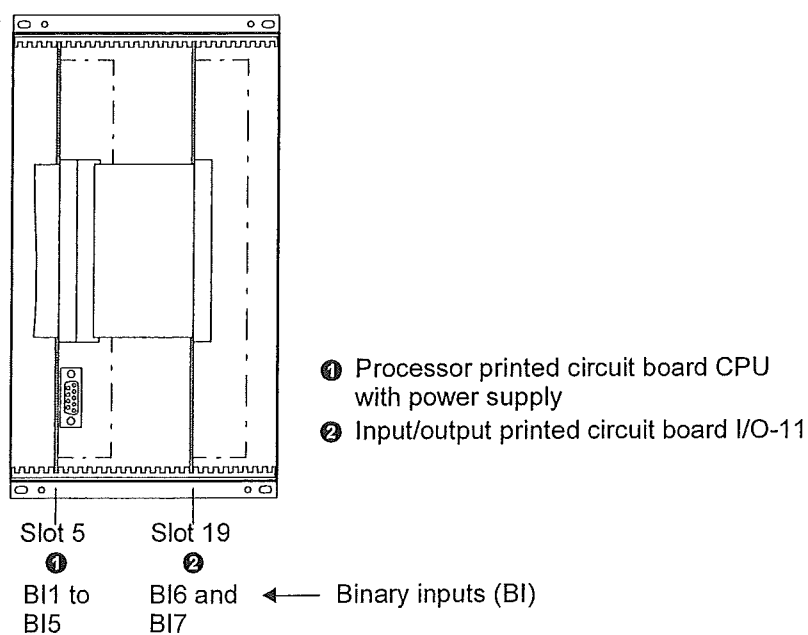
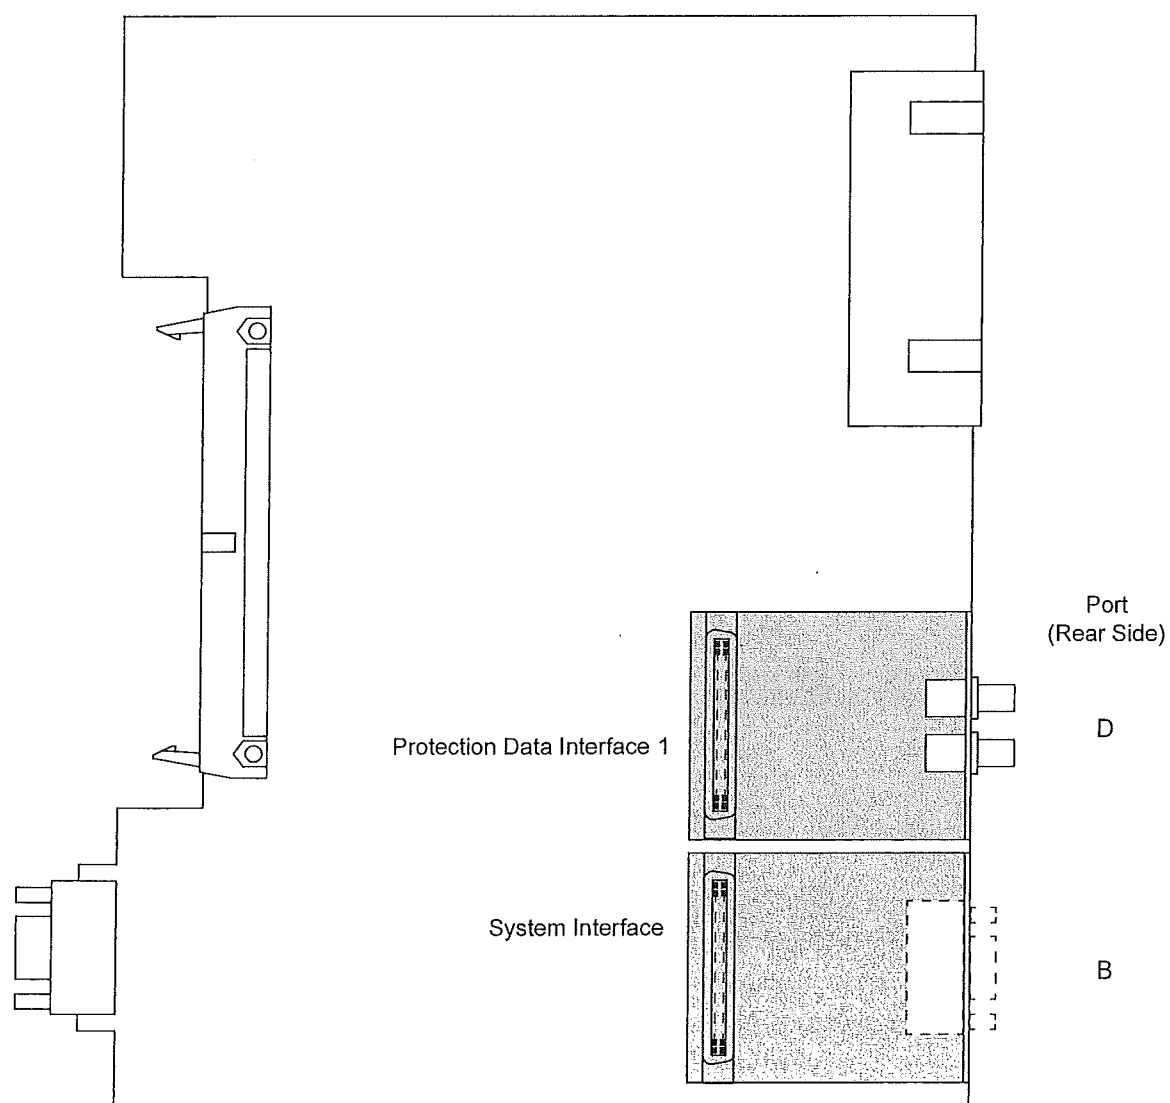
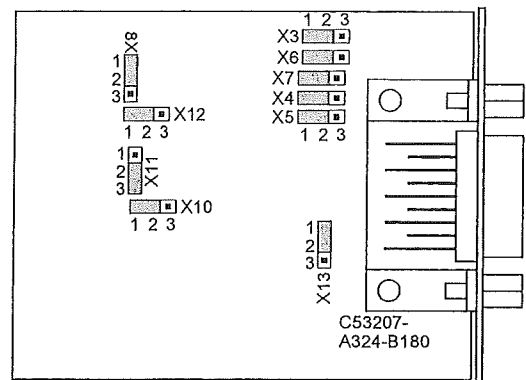

Figure 3-5 Front view of the device after removal of the front cover (simplified and scaled down)
Figure 3-8 Processor board CPU with the interface modules
Figure 3-9 Location of the jumpers on the interface module for RS232
The order of the boards is shown in Figure 3-5.
The interface modules can be replaced in housings for flush or cubicle installation. They are located on the processor board CPU (① in Figure 3-5). Figure 3-8 shows the CPU board and the location of the interface modules. The ordering numbers of the exchange modules are listed in Appendix A.1.1 (Accessories).
Figure 3-8 shows the PCB of the CPU with the location of the modules. Figure 3-9 shows how jumpers of interface RS232 are located on the interface module.
Note that devices in surface mounted housing with optical fibre connection have an electrical RS232 module on the CPU board (see *Note* above). For this application type, the jumpers X12 and X13 on the RS232 module are plugged in position 2–3, in contrast to the illustration in Figure 3-9.
The interface RS485 can be transformed into interface RS232 according to Figure 3-9.
The terminating resistors are connected to the corresponding interface module that is mounted to the processor input/output board CPU (① in Figure 3-5). Figure 3-8 shows the printed circuit board of the CPU and the allocation of the modules.